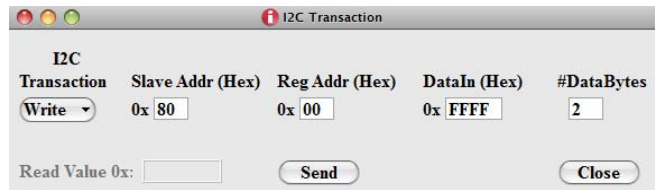

FIGURE 13. I²C TRANSACTION DIALOG BOX
- The ISL28022 Demo Software allows a user to build their own board to mate with the Dongle board. The final design may have an I²C Device incorporated into the design. The I²C Transaction selection in the Dongle drop down menu allows the user to send read and write commands to I²C devices. Figure 13 is the dialog box that appears when the I²C transaction is chosen.